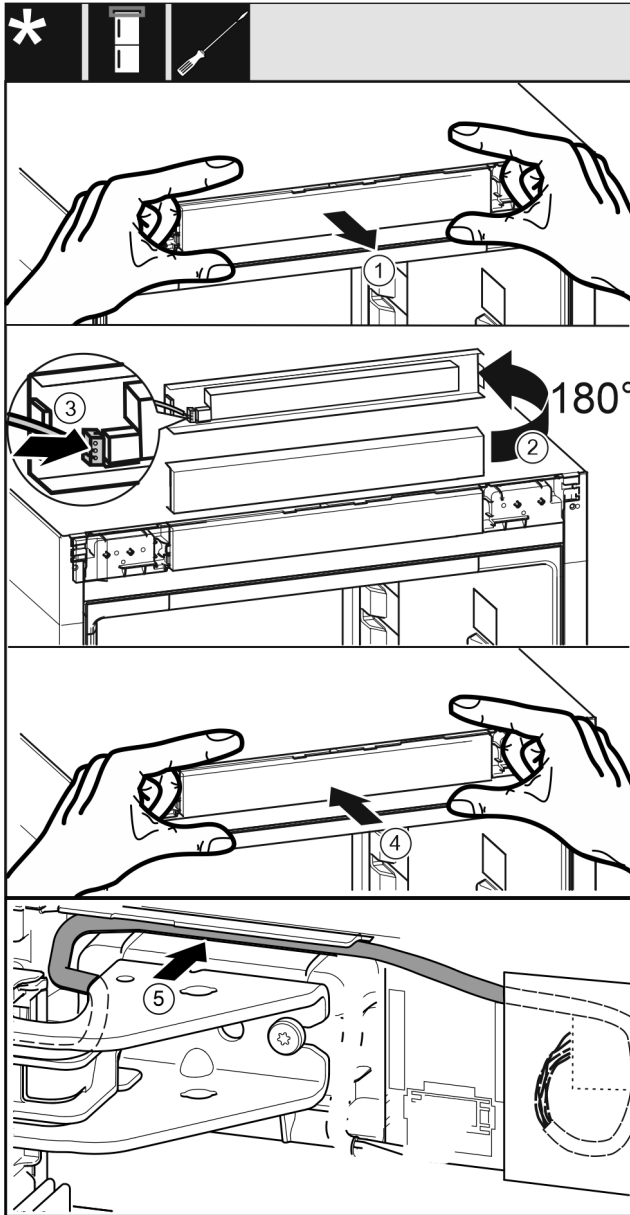

Fig. 41
- ▶ Carefully pull out the control plate *Fig. 41 (1)*.
- ▶ Turn the control plate *Fig. 41 (2)* upward by 180°.
- ▶ Snap the plug *Fig. 41 (3)* into place on the control unit panel.
- ▶ Snap the control plate *Fig. 41 (4)* back onto the appliance.
- ▶ Carefully insert the cable *Fig. 41 (5)* into the guide above the top swap bearing block.